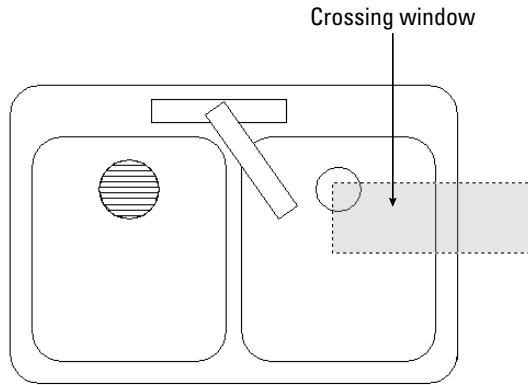
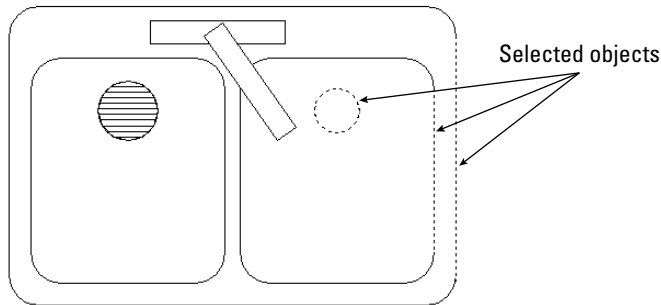

Figure 9-15: Selecting objects with a crossing window. The crossing window selects any objects that lie within or partly within the window.
Figure 9-16: The selected objects are highlighted.
- ♦ **Crossing:** Crossing enables you to pick two diagonal corners that define a window. All objects entirely or partly within the window are selected. Figure 9-15 shows the process of picking the window. Figure 9-16 shows the result — the selected objects are highlighted.